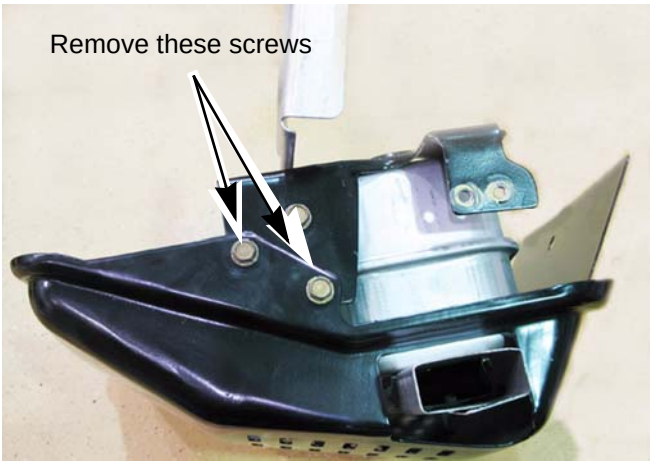

Figure 2.5
6. Remove the two screws holding the muffler guard to the muffler bracket. See Figure 2.5.